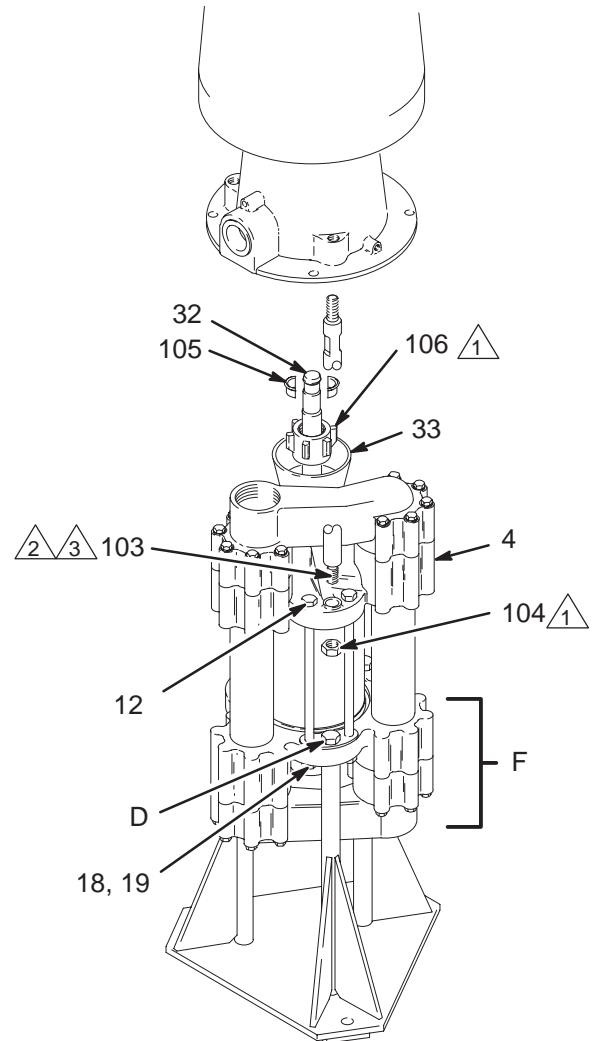

Fig. 8
To Remove the Motor (See Fig. 8)
To Reattach the Motor (See Fig. 8)
3. Remove the nuts (19), lockwashers (18) and six cylinder capscrews (12). Loosen the packing nut (33). Lift off the outlet valve housing (4). See Fig. 8.
7. Unscrew and remove the three pump stand bolts (D). See Fig. 8. Lift the inlet valve assembly (F) off the stand. Place the inlet valve housing (3) face down on a protected surface.